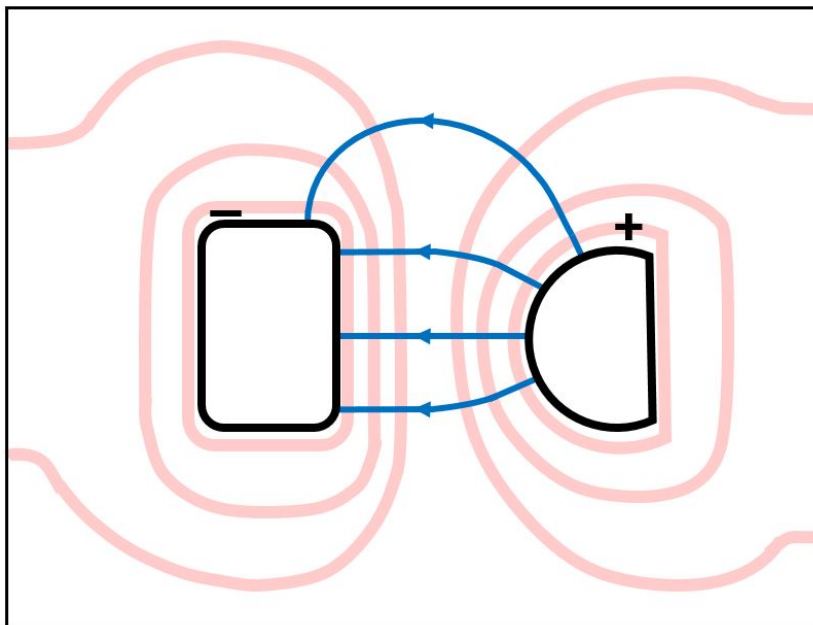

Figure 1: Equipotential Lines in Pink; E-field Lines in Blue with Arrows
If θ is 90° , the work done is zero. For example, a satellite in a circular orbit around the Earth does no work against gravity so does not need any additional energy (i.e. firing its engine) to orbit. So an equipotential surface must be perpendicular to the force and thus an equipotential surface must be perpendicular to the electric field (strength) and field lines (see Figure 1). The electric field is difficult to measure directly, but it is very easy to find the equipotential surfaces using a voltmeter (we'll see how a voltmeter works later in the course). For example, all the points where the voltage is 4 volts form an equipotential surface. In the case of our two-dimensional pattern, the equipotential "surfaces" will be lines.
3. Now use rules 2, 3, 4, and 8 from Theory to sketch the electric field lines. See Figure 1. Remember that the electric field is a vector field and you should draw an arrow on each line, directed from the positive charge to the negative charge. Hint: If there are any point charges in the field, start at the point charges, drawing eight symmetric lines, and then keep the lines perpendicular to the equipotential surfaces as you draw them in (see Figure 1).